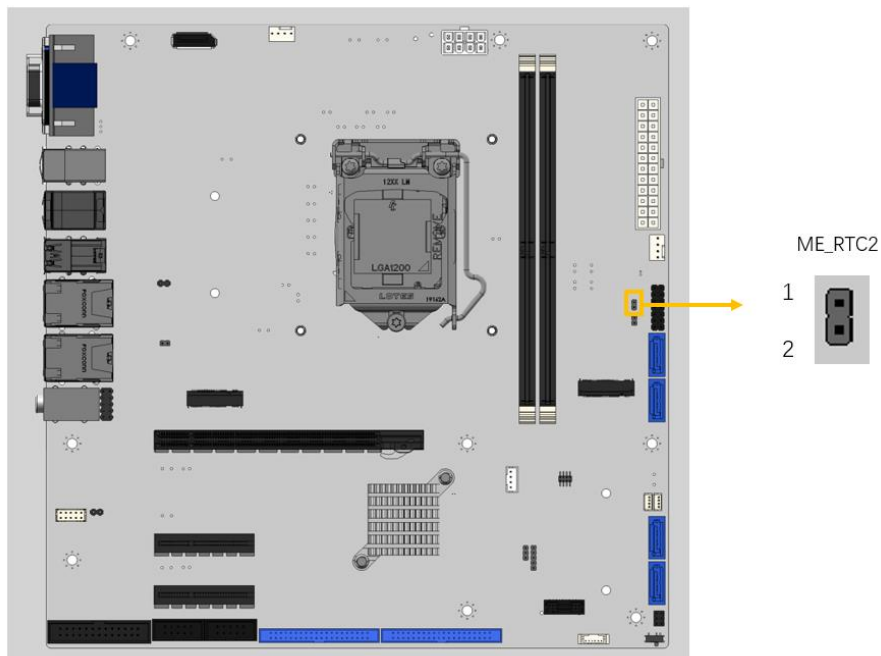

Figure 3-12: Clear CMOS Jumper Location
- CN Location:** See **Figure 3-12**